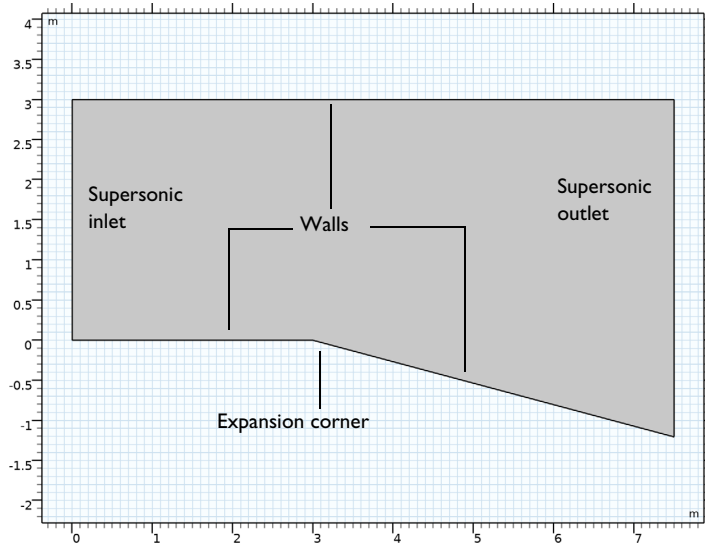

Figure 2: Model geometry.
The problem is governed by the inviscid compressible flow equations which are modeled by The High Mach Number Flow, Laminar interface in the CFD module in COMSOL Multiphysics. The geometry of the model is depicted in Figure 2.
- 6 Click the  **Zoom Extents** button in the **Graphics** toolbar (see Figure 2)